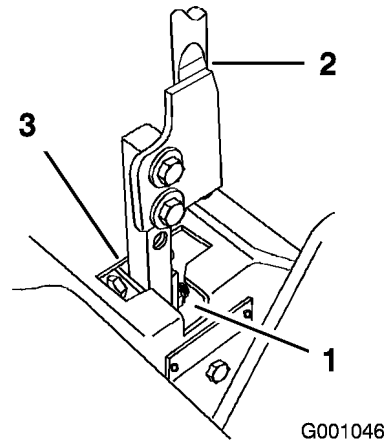

Figure 63
5. Move the lever to the neutral position but not locked (Figure 63).
6. Pull the lever back until the clevis pin (on arm below pivot shaft) contacts the end of the slot (just beginning to put pressure on the spring) (Figure 63).
7. Check where the control lever is relative to notch in console (Figure 63). It should be centered allowing lever to pivot outward to the neutral lock position.